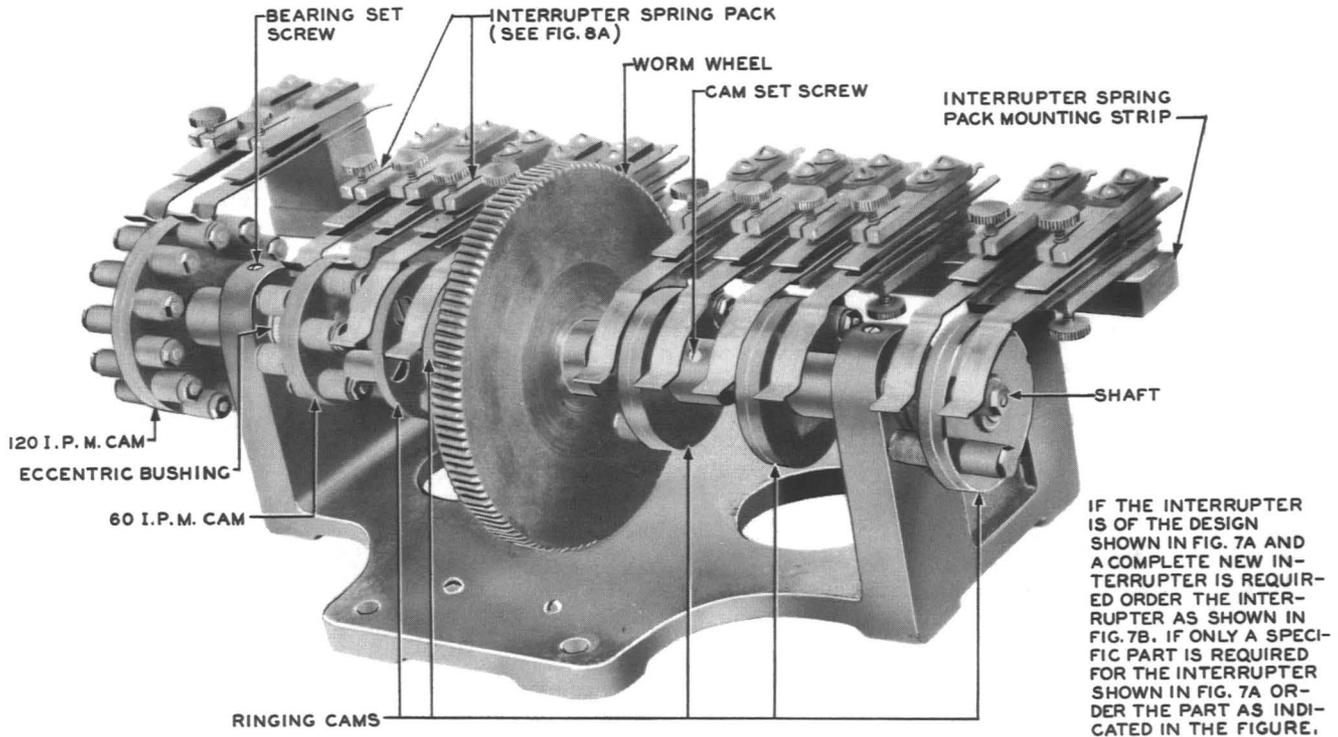

Fig. 7A - Insulated Cam Type Low-speed Interrupter (KS-5133)
Interrupters3.13 Low Speed Interrupter Bearing (See Fig. 7A and 7B)
(2) To remove the metal cam type low-speed interrupter bearing, proceed in the following manner: Remove the worm wheel cover and the screws that secure the interrupter spring pack mounting strips to the frame of the interrupter. After observing the position of the outside cams on the shaft, loosen the setscrews that secure them and slip them from the shaft. Remove the screws that hold the bearing housings to the interrupter frame and loosen the bolts on the generator. Raise the generator sufficiently to allow the complete interrupter shaft assembly to slide out of the interrupter frame. Remove the bearing retaining rings being careful not to lose the felt and copper washers, the thrust spring and the felt washer retaining ring. Note the position of the inner ball race before forcing it off so that a new one can be placed in the same position against the shoulder of the shaft. Reassemble in the reverse order. Lubricate the bearing, if required, in accordance with Section 163-701-701. When replacing a cam, be sure that it is in the same relative position on the shaft as it was when it was removed. See Section 163-701-701 for correct positioning.
3.14 Low-speed Interrupter Cams and Worm Wheel (See Fig. 7A and 7B)
3. To revise Fig. 7A, 7B, 8A, and 8B.